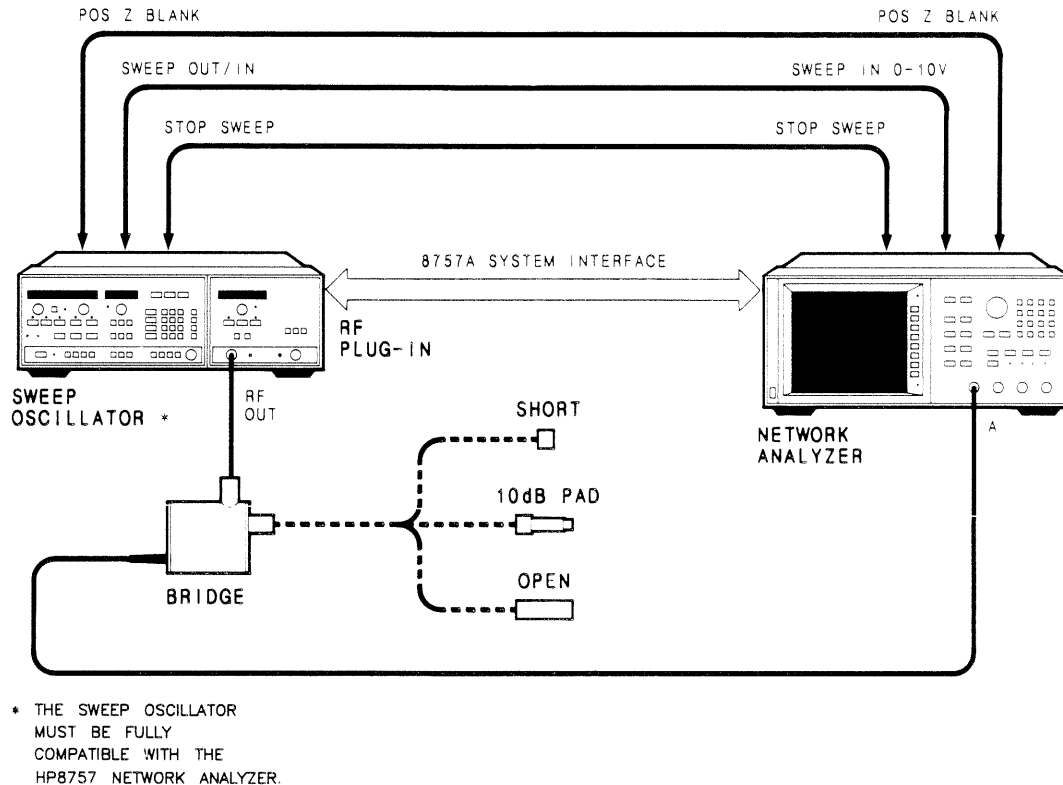

Figure 3-3. Typical Operator's Check using HP 8757A
Figure 3-3 illustrates the setup for the operator's check procedure. Follow this procedure to quickly check the entire measurement system. Incorrect results may be caused by any portion of the system, but if the HP 85027E is suspected use the performance tests in Section 4 to determine if the bridge is operating correctly. If the bridge fails those tests, turn to Section 8 to isolate the problem.
1. Connect the equipment as shown in Figure 3-3. Allow a 30 minute warm up period.